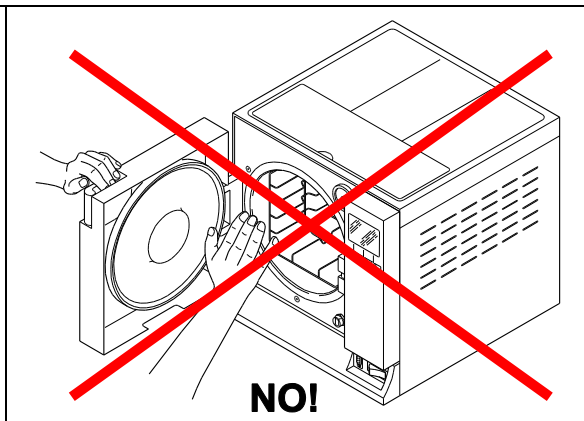

Fig. 3.4-2
2. When opening the door, do not stand over or in front of it as you may be scalded by the steam (Fig. 3.4-2).